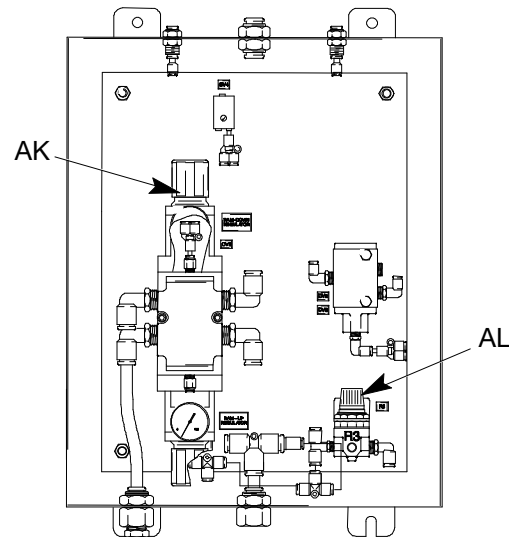

FIG. 17
2. Fully lower the ram by setting the RAM POSITION Switch (AG) to LOWER. Leave the switch in the LOWER position.
3. Open the door on the Pneumatic Logic Panel (G).
4. Adjust the air pressure to 0 PSI for the RAM DOWN Air Regulator (AK). Refer to the gauge on the RAM DOWN Air Regulator (AK) and R3 Regulator (AL) to verify the ram has been depressurized. See FIG. 17.
5. Slowly open the drain cock located on the bottom of the air cylinders (CL).
6. After the air pressure has been relieved, remove the Ram Down air line running from the top of the Pneumatic Logic Panel (G) to the ram cross bar (CB).
7. Close the Main Air Shutoff Valve (P) on header.
9. After service is complete, close drain cocks and make all pneumatic connections and open the Main Air Shutoff Valve (P) to header. Perform the **Adjusting the RAM UP and RAM DOWN Air Regulators** procedure, page 31.